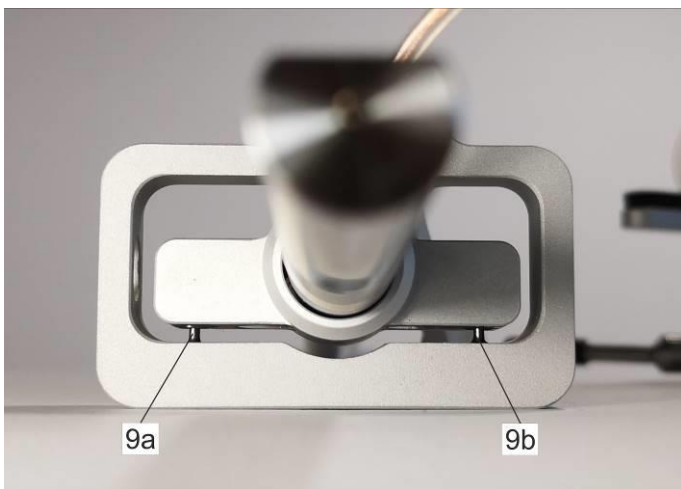

Figure 5
- f) Set armwand [7] on tonearm frame pivots [9a] and [9b] and check if they are in correct positions (Figure 5). **Needle of the bearing must be embedded in sapphire V cup.**
Before using your tonearm (making adjustments or playing LPs) make sure that all bearings of front link and back link vertical and horizontal axis are in correct position (Figure 5, 6, 9, 11).